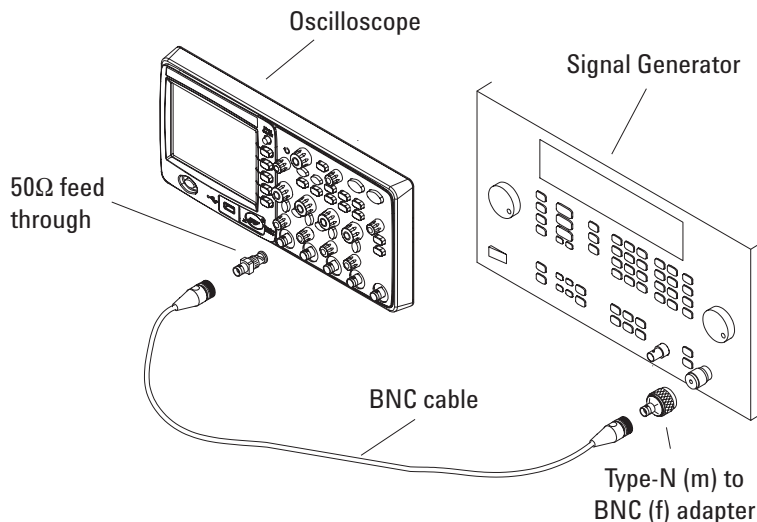

Figure 10 Connecting Equipment for Trigger Sensitivity Test
- 1 Connect the equipment (see Figure 10).